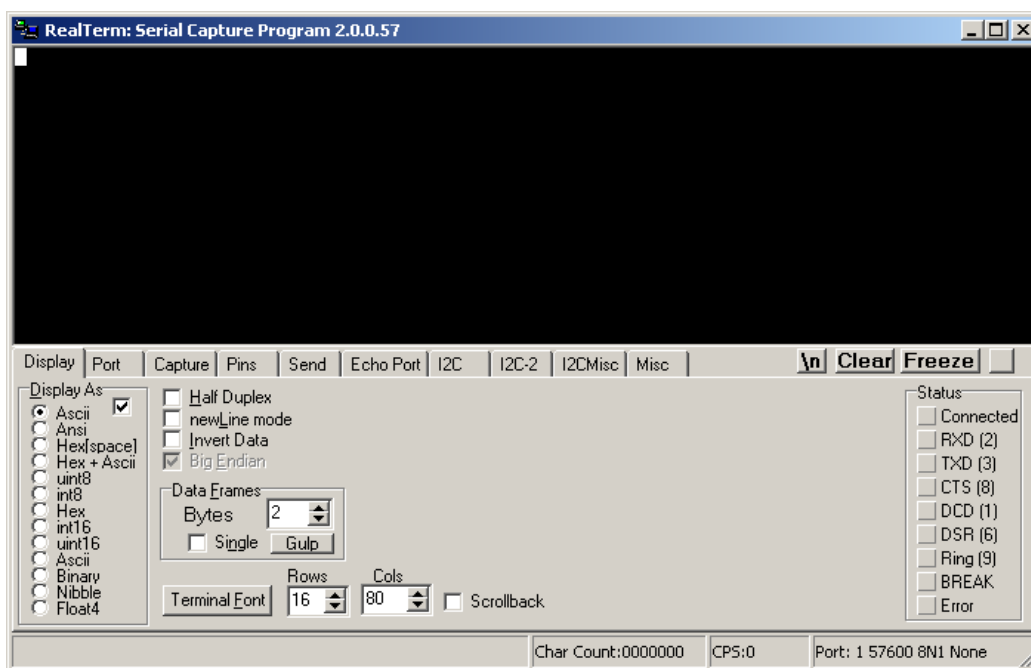

Figure 1 – Realterm terminal screenshot
- A screenshot is shown in the below Figure 1.
- Open the terminal software (see Figure 1).